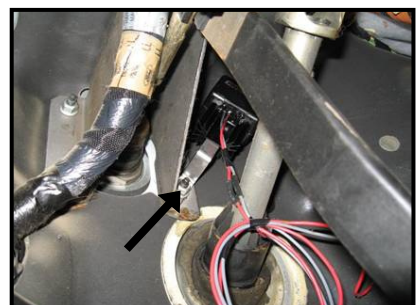

FIG 4 | *Steering column mounting location under dash*
- STEP 7 (fig 4)** Mount the bracket of the newly supplied module to stud with nut on the right upper side of the steering column. Ensure wires do not come into contact with steering column and secure with the supplied tie-straps.